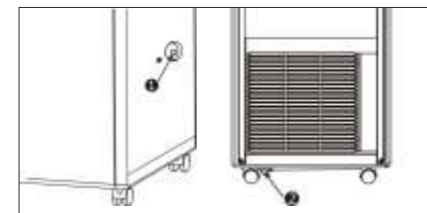

Fig. 10
When the condensate collection tank is filled up, water needs to be drained, otherwise the unit will not operate. Condensate should be drained by opening the lower plug at the device's base (Fig. 10 pos. 2).
A hole designed for continuous condensate removal in the center of the device (Fig. 10 pos. 1) can be used for continuous condensate removal under conditions of increased humidity inside a room.
1. When the unit is in cooling mode, it is not necessary to install the condensate drainage pipe since condensate evaporates automatically. Make sure that when the unit is operating, the rubber plug of the drainage hose is securely fixed (see Fig. 10).
2. In heating mode, remove the rubber plug (2) of the drainage hose (Fig. 10), install the respective drainage hose to improve heating efficiency.
3. In dehumidification mode, remove the rubber plug (2) of the drainage hose, install the respective drainage hose. Disconnect the air outlet hose, connect the drainage hose to the drainage hole and drain water from the unit to ensure maximum dehumidification efficiency.